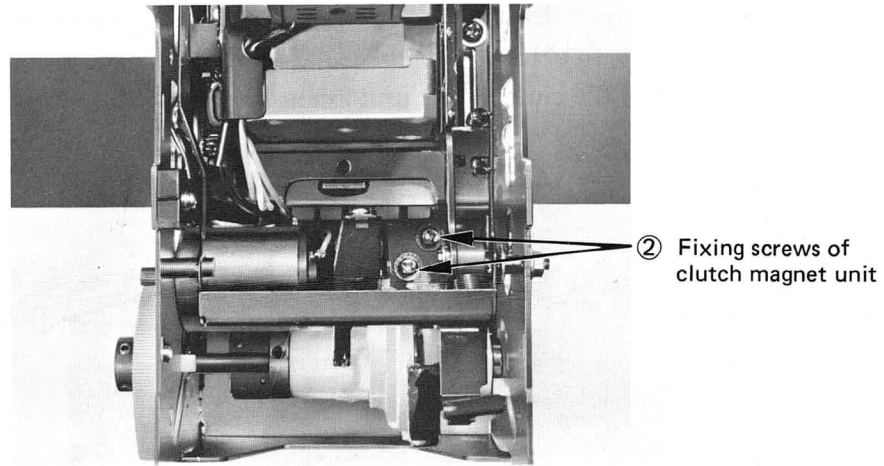

Fig. 5.20
Step 3. Remove two fixing screws ② of the clutch magnet unit, and take off the clutch magnet unit. (Fig. 5.20)